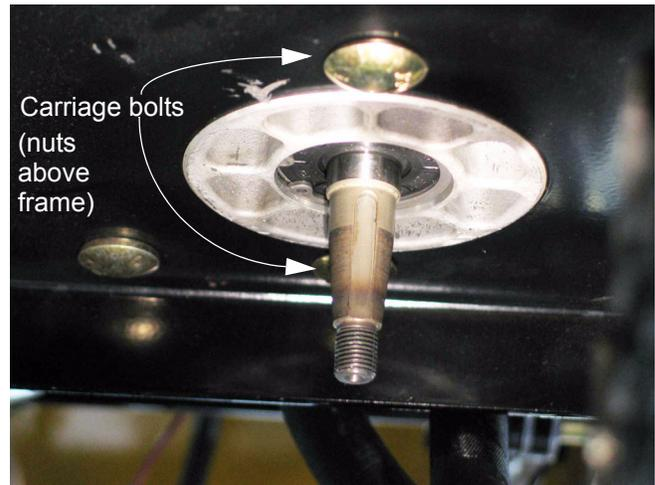

Figure 25.18
25.18. Remove the nuts that secure the pump to the frame using a 9/16” wrench. See Figure 25.18.